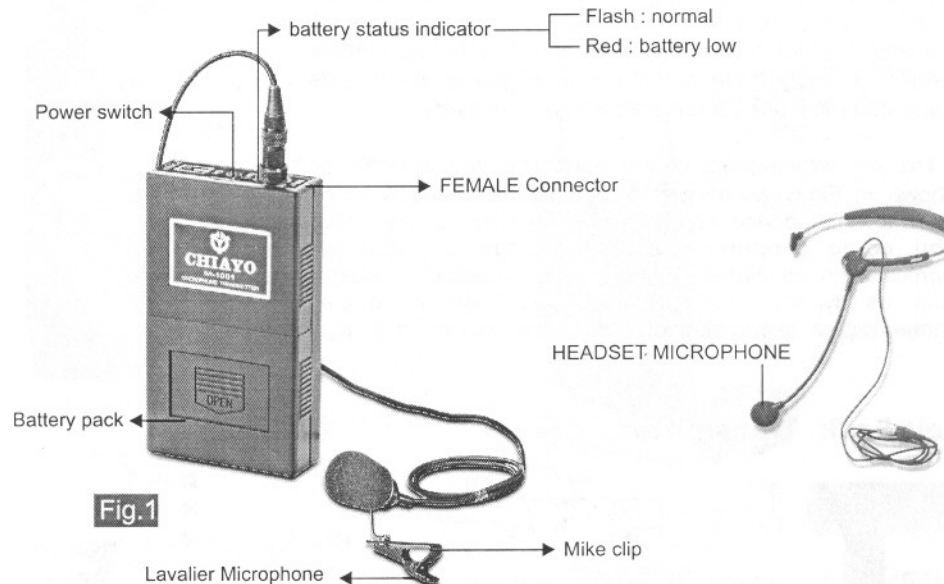

Fig.1
1.The Belt-Pack transmitter is shown in Fig.1.